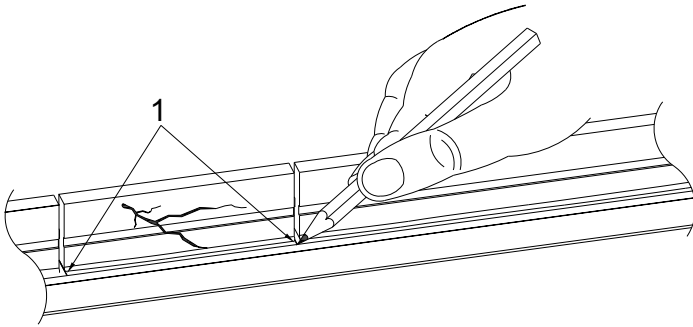

Figure 38
Mark the position of the damaged tab on the electrode (1) before removing it (**Figure 38**).